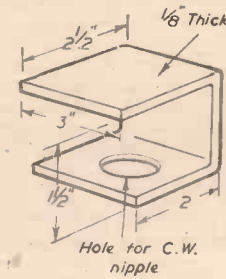

Fig. 2.—Cold-water baffle plate.
The cold-water feed (E) enters the base of the tank, about 2in. from the back wall and remote from the hot-water outlet. Before fitting the cold-water inlet nipple, a baffle plate is prepared. Mark a centre line along the 6in. length of the 6in. by 3in. zinc plate; cut on the centre line a clearance hole to take the cold-water nipple. Now bend the sheet into U-shape with the drilled leg 2in. long and the base of the U 1 1/4in. deep. Fit the nipple into the tank, place the baffle over the nipple and tighten up the securing nut. It will be seen that the incoming flow will now diffuse over the plate. Details of this fixture are given in Fig. 2.